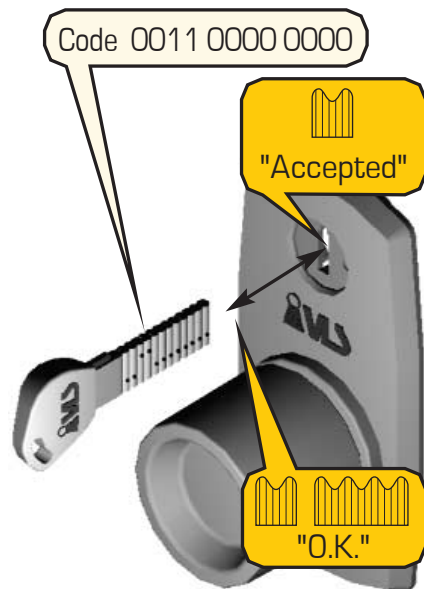

Figure 32 – Programming the self-blocking time for 2 minutes
2. In order to program the self-blocking time for 2 minutes, set the code 0011 0000 0000 on the key (fig. 32).